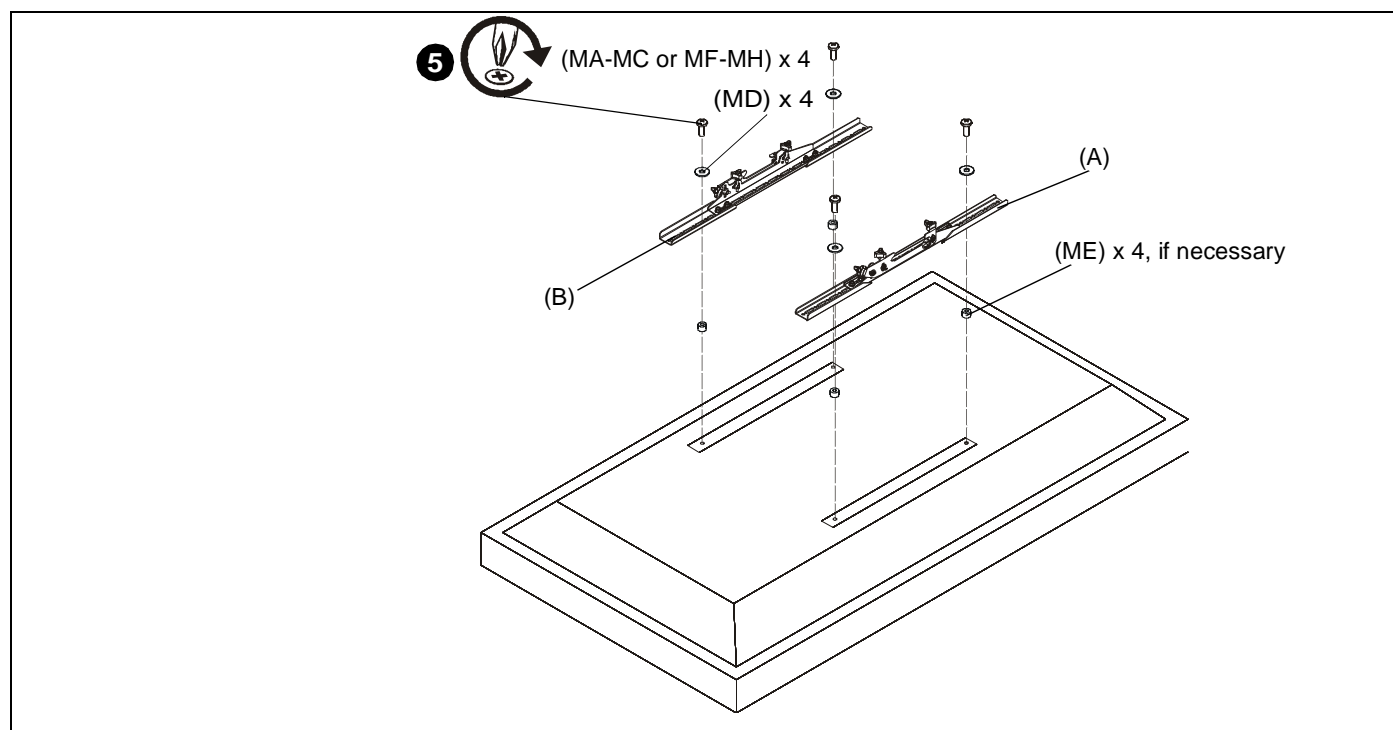

Figure 4
2. Select screw *diameter* by examining hardware (MA-MC and MF-MH) (6mm or 8mm) and comparing with mounting holes on display. (See Figure 4)
- If mounting holes are recessed, or if protrusions prevent brackets (A and B) from laying flat, then spacers (ME) must be used.
4. Select screw *length*: (See Figure 4)
- Using your hand, insert **SHORTEST** length screw of selected diameter (MA or MF) through 1/4" washer (MD), bracket (A or B), selected spacer (ME, if required), into display mounting hole. Do NOT thread screw into hole at this time.
5. Use selected screws (MA-MC or MF-MH), washers (MD) and spacers (ME), if necessary, to connect interface brackets (A and B) to back of display. Make sure diamond on interface brackets is even with center of display. (See Figure 4)